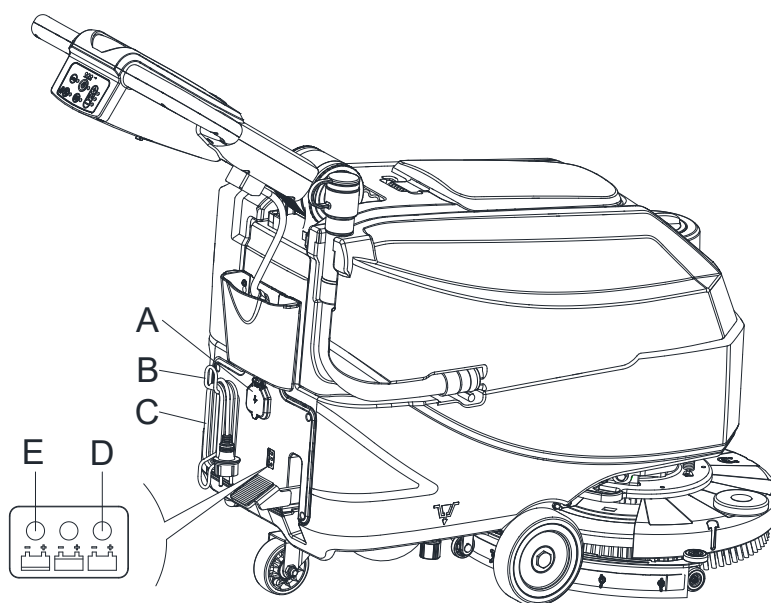

Figure 13
9. Connect the battery charger cable (C, Figure 13) to the electrical mains (A) the electrical mains voltage and frequency must be compatible with the battery charger values shown on the machine serial number plate (41, Figure 2). When the battery charger is connected to the electrical mains, all machine functions are automatically cut off. If the red warning light (E) on the battery charger control panel stays on, the battery charger is charging the batteries.
10. When the green warning light (D) turns on, the battery charging is completed.
11. When the battery charging is completed, disconnect the battery charger cable (C) from the electrical mains (A) and wind it round its housing (B).